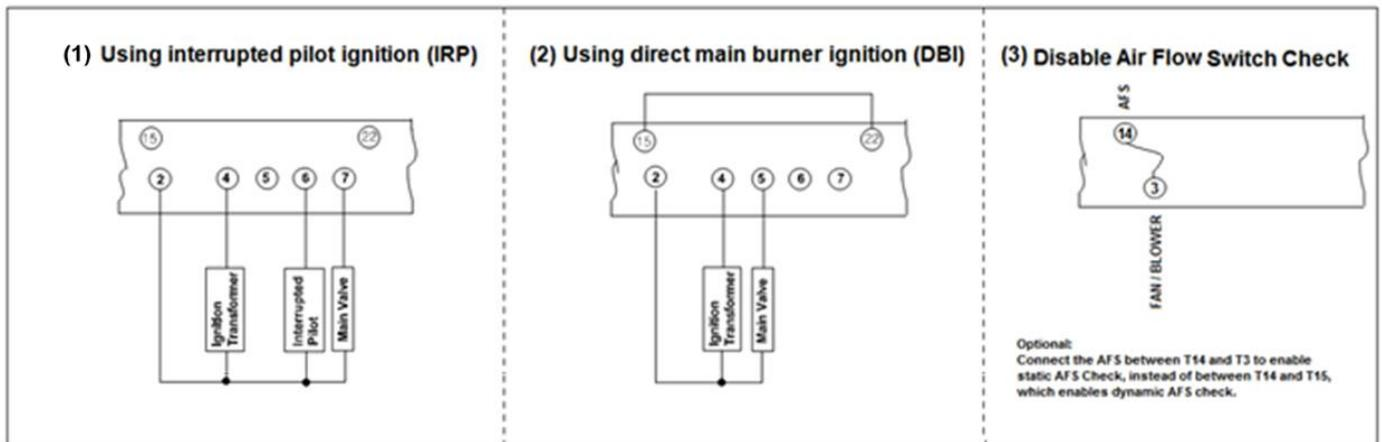

Fig. 3-2: More examples of wiring to external equipment
1. Wiring connections for the relay modules are unique; refer to Fig. 3-2 or the appropriate Specifications for individual subbase wiring.
- ① Where chemicals or corrosive gases are present, such as ammonia, sulfur, chlorine, ethylene compounds, acids, etc.